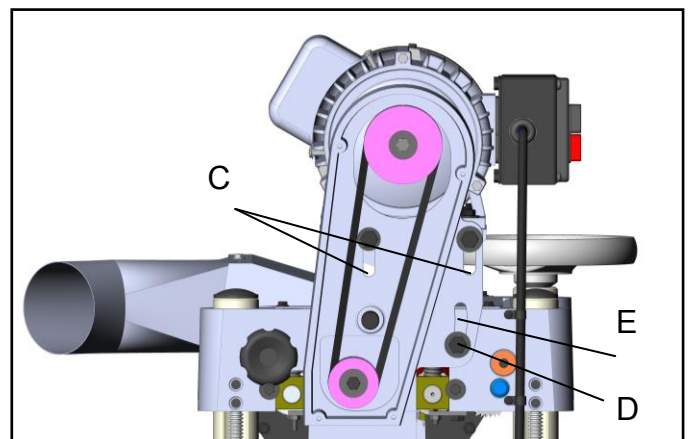

Fig. 15
4. Loosen the two bolts (C, Fig. 15) and micrometric adjustment screw (D) by shifting it to the highest position of the slot (E), and pry up on the motor base to an approximate belt tension. Then make micrometric adjustment of belt tension. At this time, loosen the micrometric adjustment screw to the highest position of the slot (E). Adjust belt tension until correct belt tension is obtained.
6. Then tighten two bolts and remount pulley cover. (Fig.15)